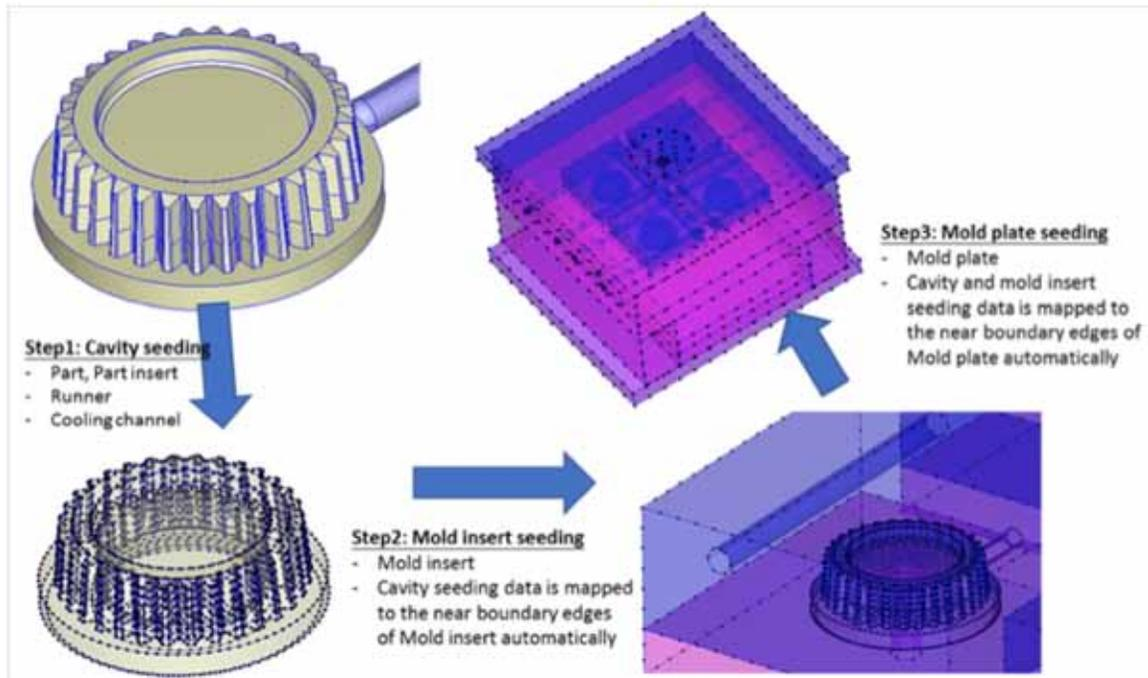

**Figure 1: The settings of complete mold and mold plate attributes.**
2. Import the simplified model to Moldex3D Designer BLM and set attributes: Set the attributes of the part, runner, cooling channels and mold inserts respectively, and utilize the new mold plate attributes to set the fixed and movable mold plates. It can show or hide the items with set attributes (**Figure 1**).